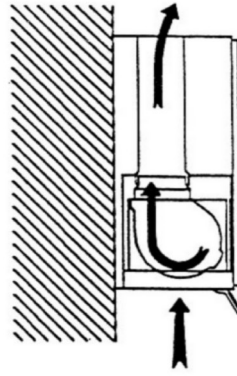

Fig. 5
**Filtering (Fig. 5).** The fumes pass through the carbon filters to be purified and recycled into the kitchen through a pipe connected to the outlet of the hood up to the hole on the top of the cabinet.